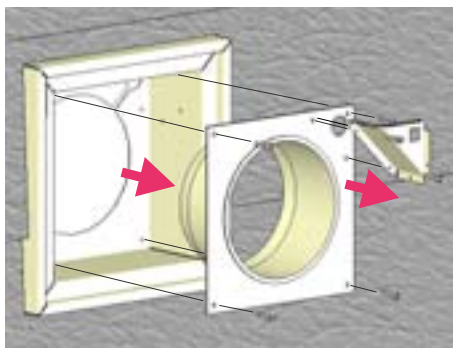

Figure 6b. Installation of Rough-in Kit
**Step 3.** Next, remove the bottom collar and conduit mounting frame as shown Figure 6b. (Place removed hardware in a handy location for re-assembly).